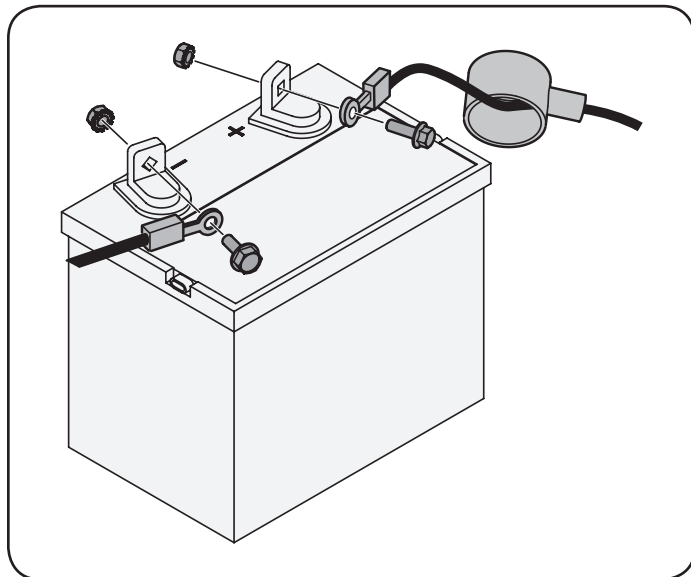

Figure 3
1. Remove the plastic cover, if present, from the positive battery terminal and attach the red cable to the positive battery terminal (+) with the bolt and hex nut. See "Figure 3".
2. Remove the plastic cover, if present, from the negative battery terminal and attach the black cable to the negative battery terminal (-) with the bolt and hex nut. See "Figure 3".